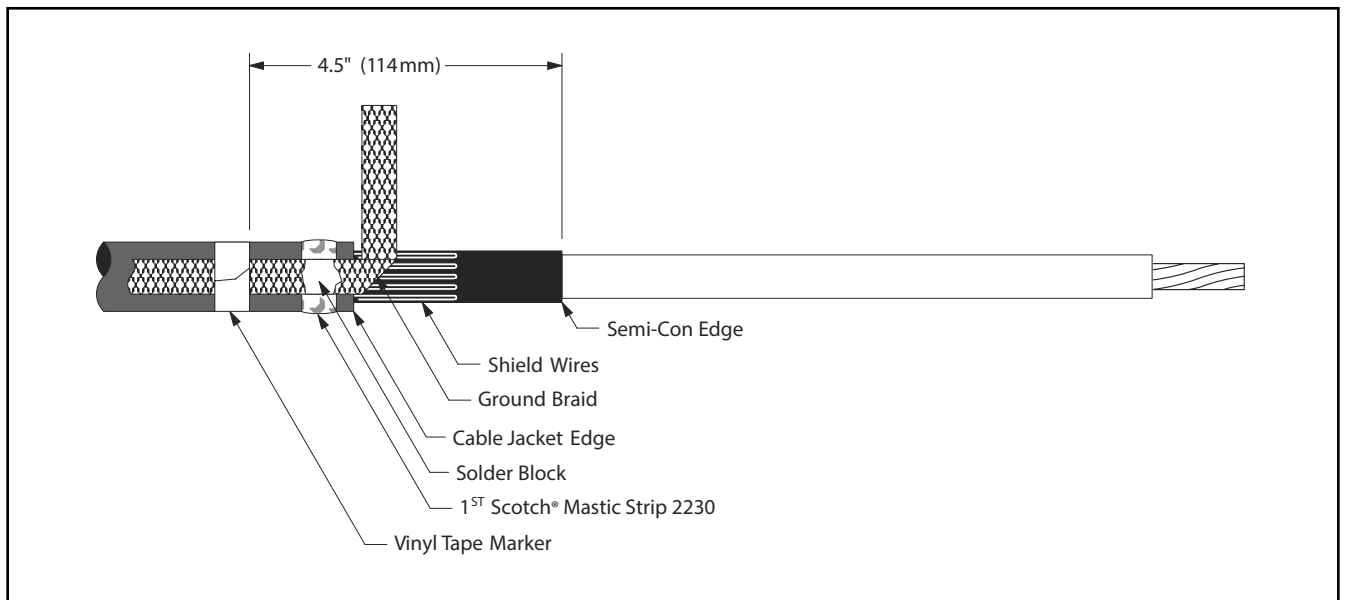

Figure 11
- 7.2 Position pre-formed ground braid with short tail over wire shield directly adjacent to cable jacket cut edge. Position long tail of ground braid, extending over cable jacket with solder block over mastic strip (*Figure 11*). Secure ground braid to cable jacket 4.5" (114 mm) from cable semi-con edge using vinyl tape (*Figure 11*).